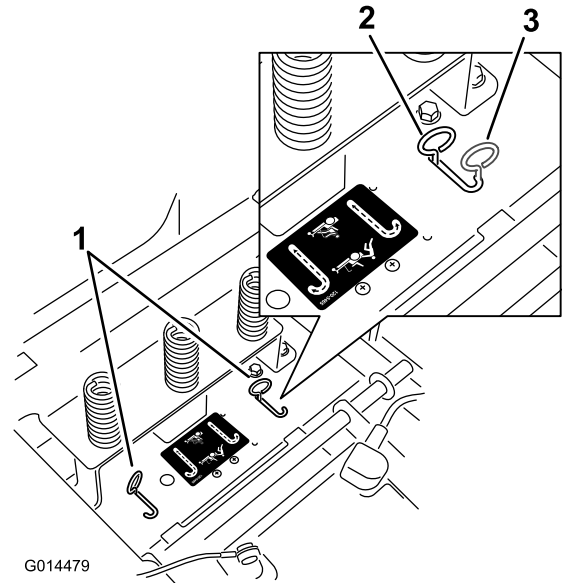

Figure 25
- Move the bypass levers forwards and then out to lock them in place as shown in Figure 25 to disengage the wheel motors. Repeat this for each lever.
Move the bypass levers inward and push them back in the horizontal slot (Figure 25) to engage the wheel motors.